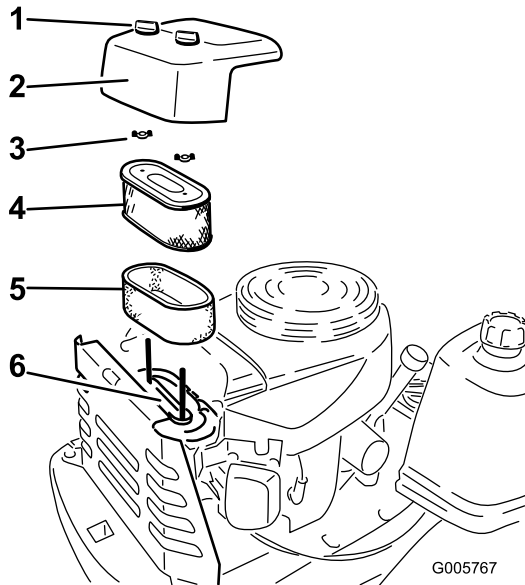

Figure 22
3. Clean around the air cleaner to prevent dirt from getting into the engine and causing damage. Loosen the two plastic knobs on the cover and remove the air cleaner cover (Figure 22).
4. Carefully remove the foam element from the paper element (Figure 22).
5. Unscrew the wing nuts and remove the paper element (Figure 22).